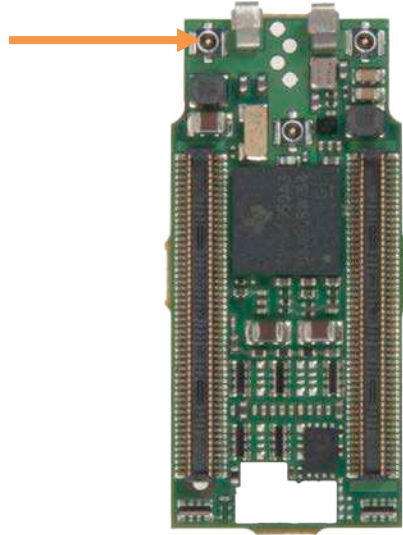

Figure 8.3: 5 GHz Antenna Connector on DM3730 Torpedo + Wireless SOM
3. For 802.11a/n Ethernet support, connect one antenna to the 5 GHz antenna connector at reference designator J6. See Figure 8.3 for the antenna connector location on the bottom of the DM3730 Torpedo + Wireless SOM.